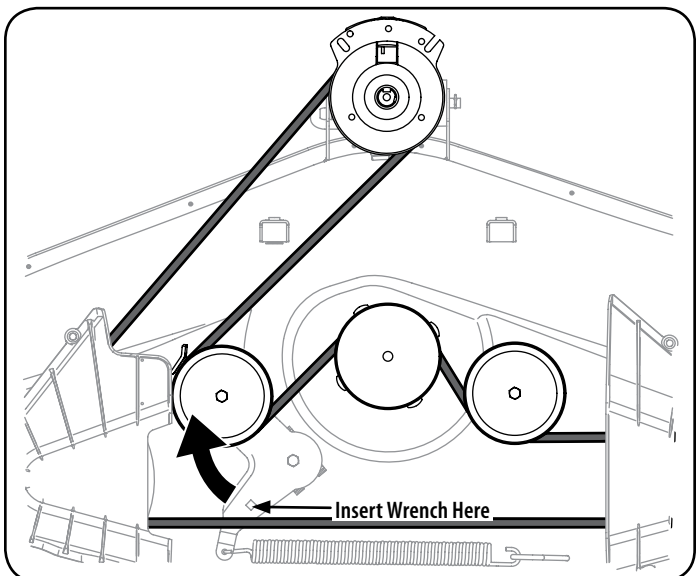

Figure 26
- c. Working on the right side of the tractor, insert a $\frac{3}{8}$ " drive ratchet wrench, set to tighten, into square hole found on the idler bracket. See Figure 26.
2. Use the wrench to pivot the deck drive pulley forward. See Figure 26.